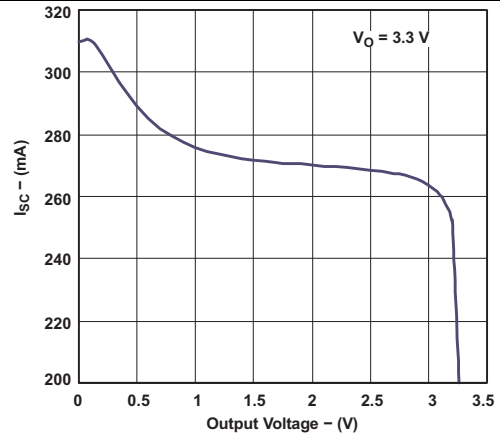

Figure 6. Short-circuit Current vs Output Voltage
(3) See Figure 6 in Typical Performance Characteristics.